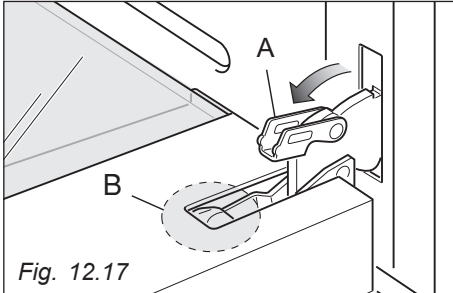
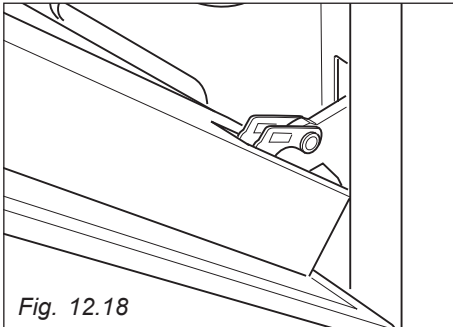

Fig. 12.17
Fig. 12.18
- Open the lever "A" completely on the left and right hinges (fig. 12.17).
- Gently close the door (fig. 12.18) until left and right hinge levers "A" are hooked to part "B" of the door (fig. 12.17).
1. Make sure the door is locked open (see fig. 12.18).